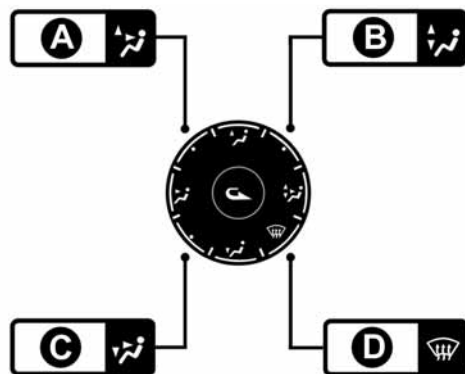

fig. 38a
- turn E knob to  and move it to position  (B-fig. 38a) if demisting does not take place;